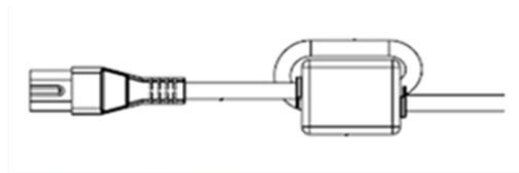

Figure 7: Loop cable through ferrite
- Loop cable through ferrite as shown Fig. 7. Note orientation of closed ferrite (the numbers are to the front as highlighted below). There should be a distance of 45mm between the end of the closed ferrite and top of the inlet port as shown.